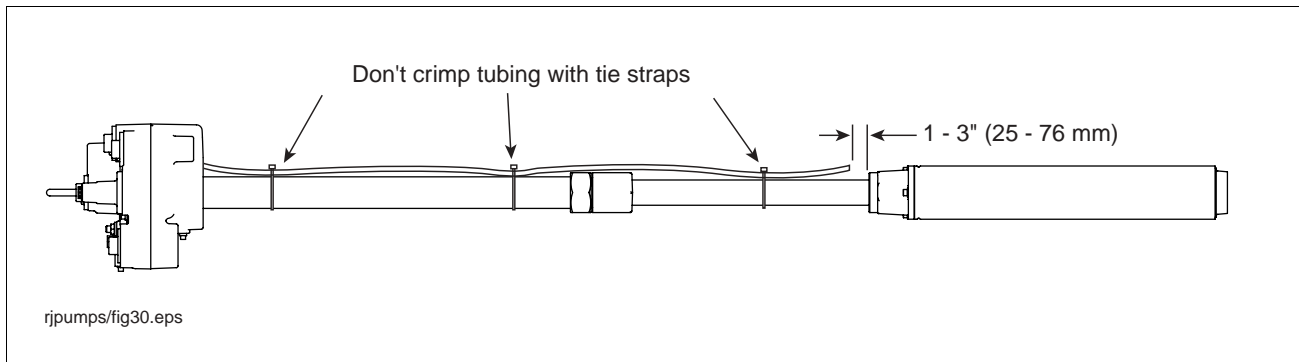

Figure 13. Attaching return line tubing to pump
9. Secure return line tubing to column pipe with tie straps. Locate tie straps approximately 6 inches (152 mm) from manifold, 6 inches from discharge head and middle of tubing (see Figure 13).